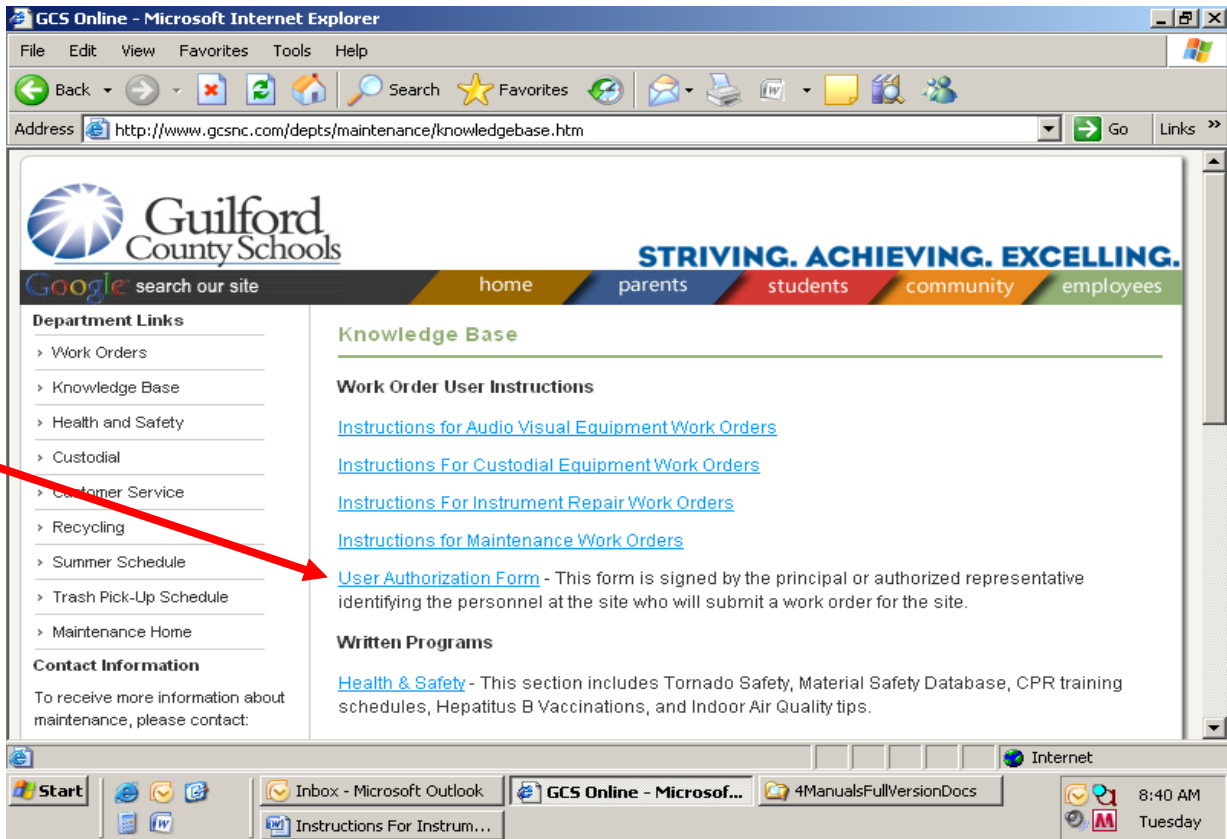

Figure 4 - Knowledge Base
- Click on the link, “**User Authorization Form.**” (See Figure 4.)